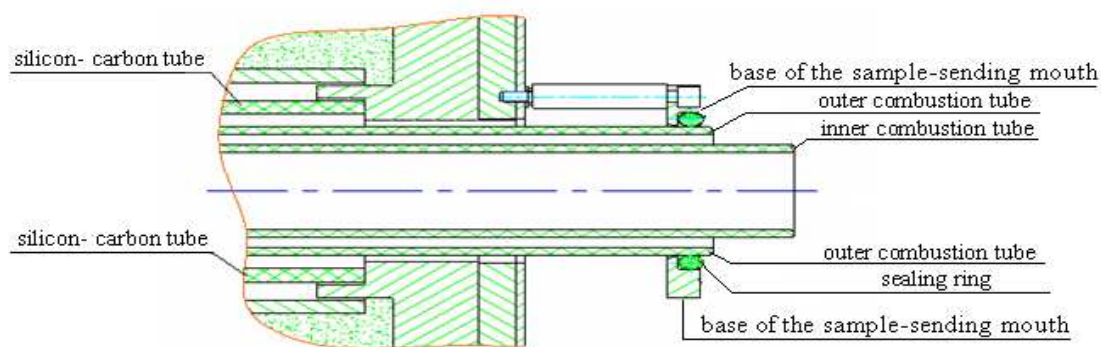

Fig. 3-1 Installation Diagram of Inner and Outer Combustion Tube and Silicon-carbon Tube
- 6) The detailed installation diagram is shown in Fig. 3-1: